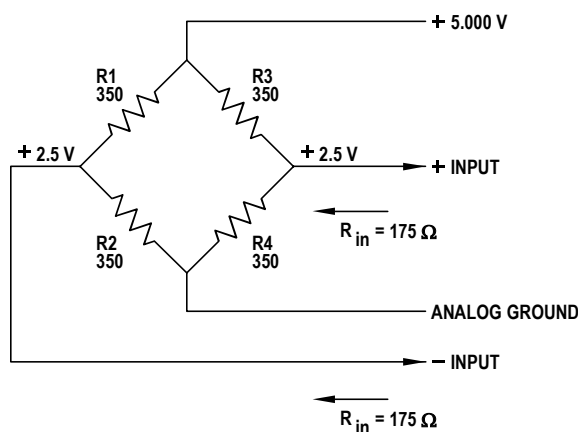

Figure 17. Special considerations when using Electrode Test with a strain gauge.
- 1) A typical gauge is shown in Figure 17. Each arm of the Bridge is nominally 350 Ω . Looking back at the gauge from the positive input, the input resistance (R_{in}) is $R_3/R_4 = 175 \Omega$. Similarly, looking back at the gauge from the negative input, the resistance is $R_1/R_2 = 175 \Omega$.
- 2) During the Electrode Test measurement, one of the inputs must be grounded while the resistance at the other input is tested. If the negative input in Figure 17 is grounded the positive input sees the 2.5 V_{dc} level as well as the 10 Hz signal due to the approximately 1 μ A test waveform. The response to this waveform is about 175 μ V_{p-p} (175 Ω x 1 μ A_{p-p}).